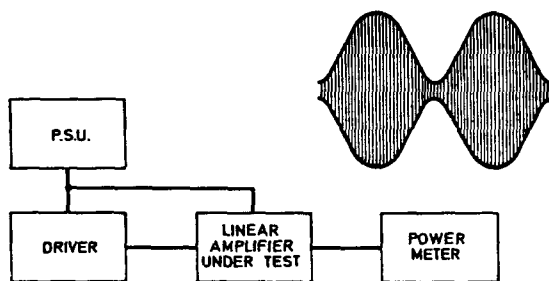

FIG. 1
1. Connect Radiotelephone and Amplifier as in Fig. 1. Set PSU to 13,6V.